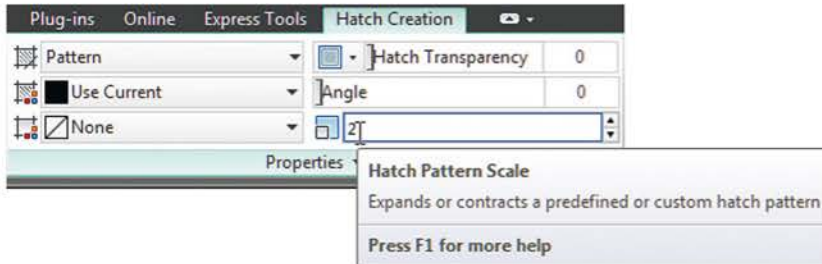

Fig. 8.14 Setting the Hatch Scale to 2 in the Hatch Creation/Properties panel
- In the **Hatch Creation/Properties** panel, adjust the **Hatch Scale** to 2 (Fig. 8.14).